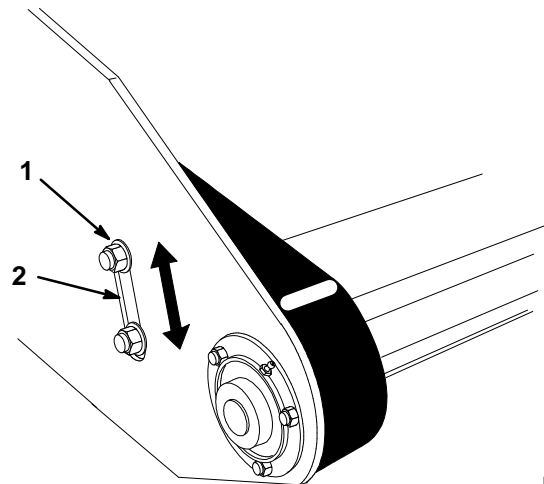

Figure 31
5. To adjust, loosen the bolt that secures the idler sprocket to the left-side housing. (Fig. 31).
6. Slide the idler sprocket in the adjustment slot until the chain is snug, but not tight (Fig. 31).